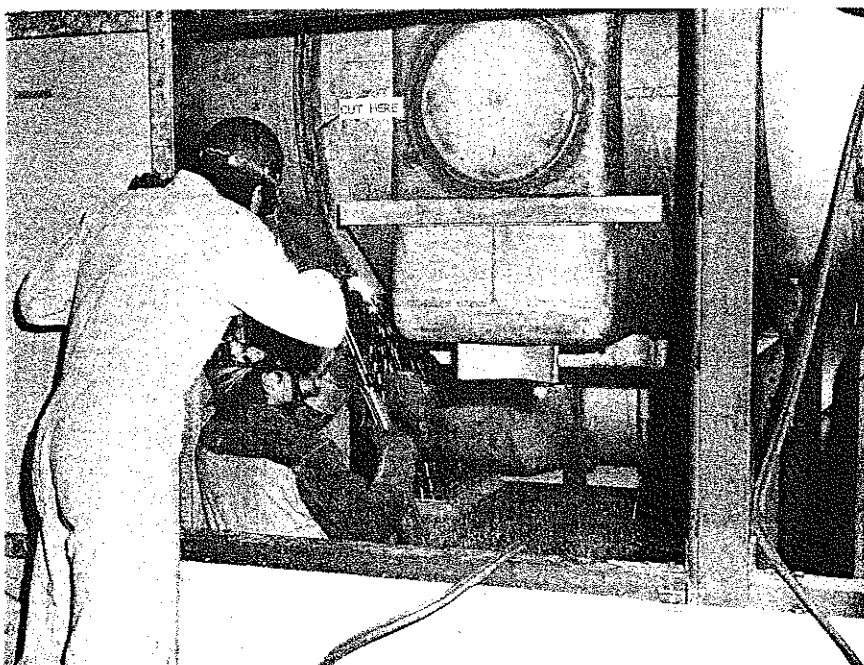

FIG. 9 SCARFING OPERATION
- g. Separate block valve from PG piping by scarfing the flange welds (Fig. 9).